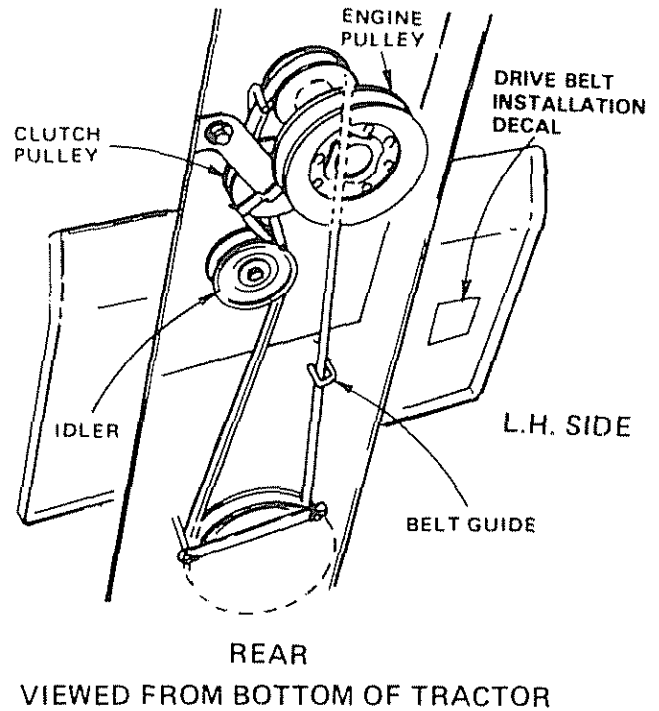

FIGURE 22
- e. Roll belt over engine pulley and off idler (Fig. 22).
- g. Reset parking brake. Pull belt over top of clutch pulley (Fig. 22).